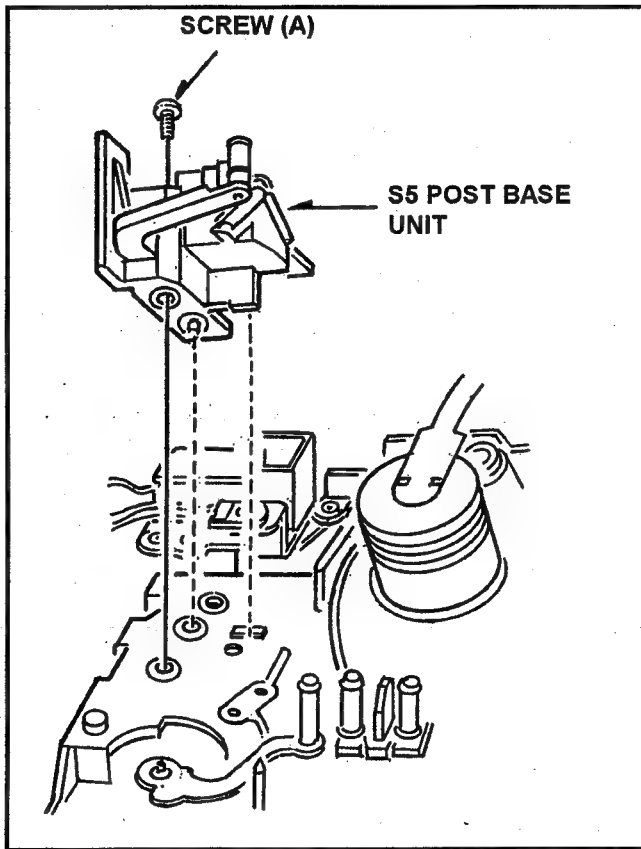

Fig. 6-17-1 Removal of S5 Post Base Unit
3. Unscrew the screw (A) and remove the S5 Post Base Unit as shown in Fig. 6-17-1.
1. Install the S5 Post Base Unit and reverse the previous steps. The installed position of S5 Post Base Unit is shown in Fig. 6-17-1.
2. After installation, Post Height Pre-adjustment (Refer to item 5-5) and Linearity Adjustment (Refer to item 5-18 [Tape Pass Adjustment Procedure]) should be performed.